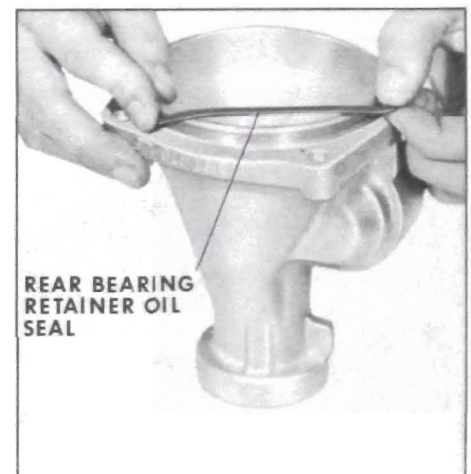

Figure 74-330
1. Install rear bearing retainer oil seal. See Figure 74-330.